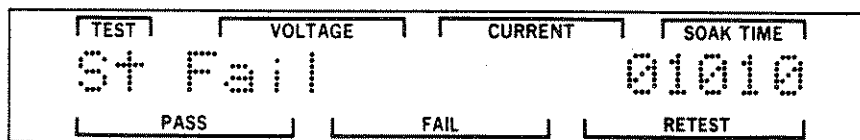

Figure 3-119. St Fail Screen
- STEP 2. Press the RIGHT pushbutton to display a Handler screen. Press the UP or DOWN pushbutton until the St Fail screen is displayed. Figure 3-119 is an example of this screen.